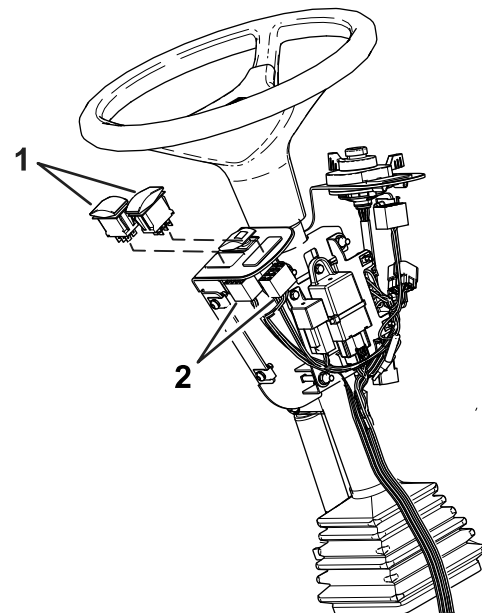

Figure 7
6. Install the connectors for the switches into the switch mount on the steering column (Figure 7).
7. Install the switches into the connectors and switch mount (Figure 7).